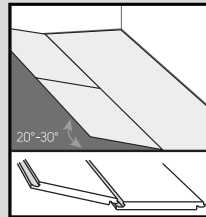

Fig. 3
4. Start the second row by clicking the tongue into the groove holding the plank at an angle (approximately 30°), then push the plank firmly into the groove of the first row. Fit the next plank by clicking the tongue and groove together along the short edge. Ease the tongue and groove together on the long side by angling the planks together (Fig. 3).